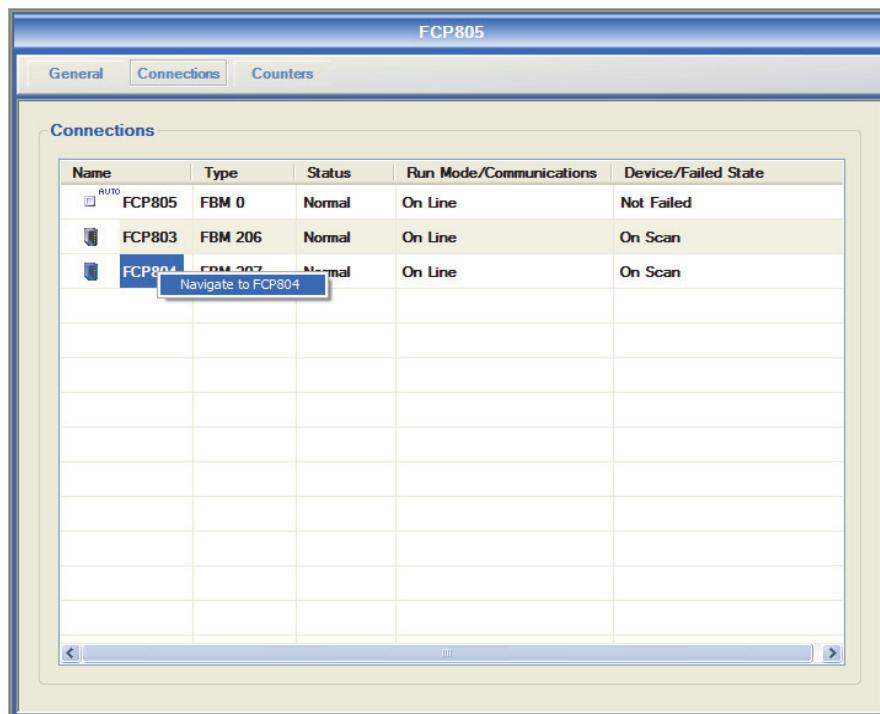

Figure 2-3. Information Pane, Connections Tab
The Connections tab provides a summary of the attached equipment selected in the Navigation pane. It is available for stations, FCMs, FBMs, System Monitors, and Switches with attached devices. The Connections tab shows the hierarchical next level connections for the selected component. The Connections tab has been extended for LI and ATS, but in these two cases it shows logical connections rather than attached devices. Logical connections represent the stations residing under an ATS node (ATSs which are configured in LI mode) or an LI node. The Connections tab will not be shown for ATS if configured in 'Extended Mode'. Additionally, no Connections tab will be shown for ATS when seen under the Switch View. Figure 2-3 shows an example of the Connection Tab view.
- Right-click the equipment name and choose **Navigate to <equipment name>** from the context menu (**Navigate to FCP804** in Figure 2-3).